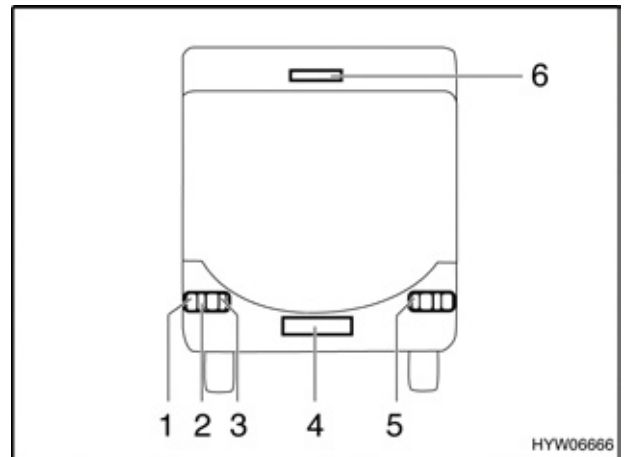

Fig. 158 Rear lights
- Undo housing screws (Fig. 158,1 to 5).
Only replace third brake light (Fig. 158,6) completely.